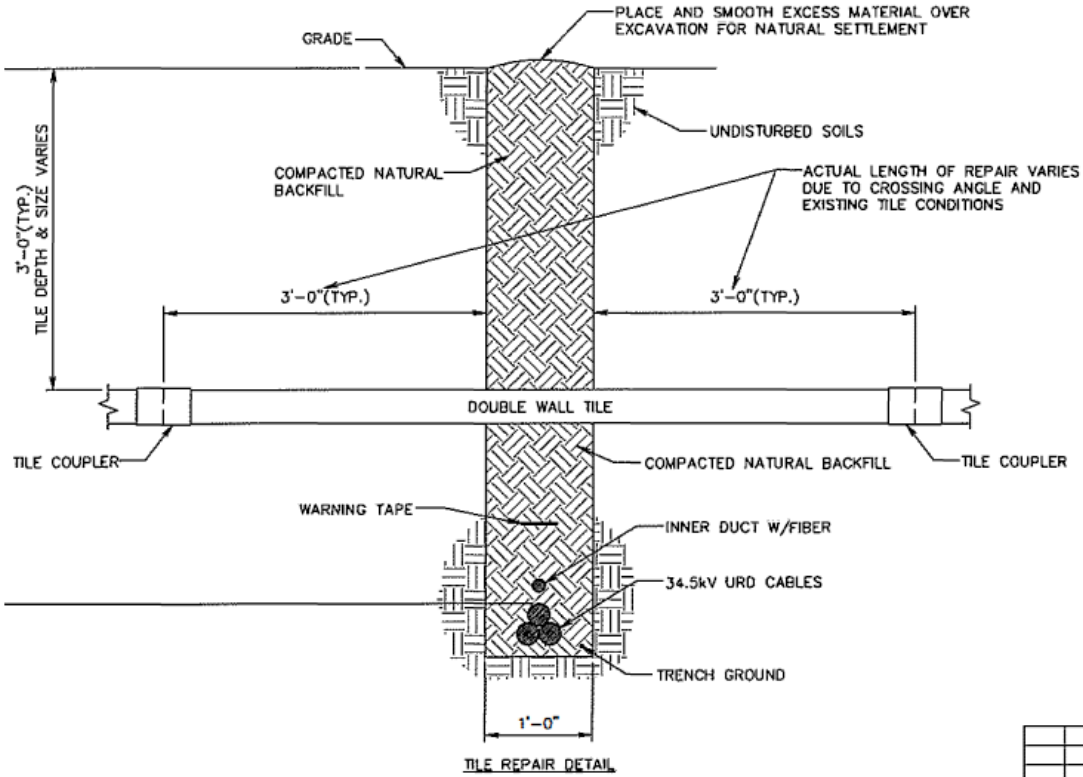

Figure 4. Drainage Tile Repair Schematic
- Figure 4. Drainage Tile Repair Schematic 5-1